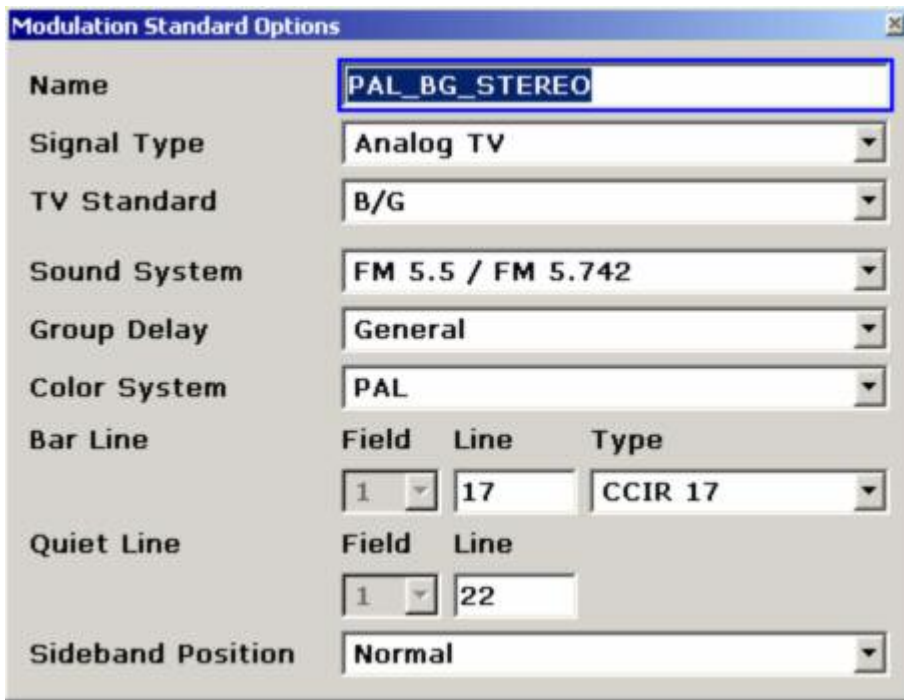

Fig. 2-51 Analog TV modulation standard PAL\_BG\_STEREO
The **Modulation Standard Options** dialog box appears (see for example Fig. 2-51).
- The **Modulation Standard Options** dialog box should now look as in Fig. 2-51.